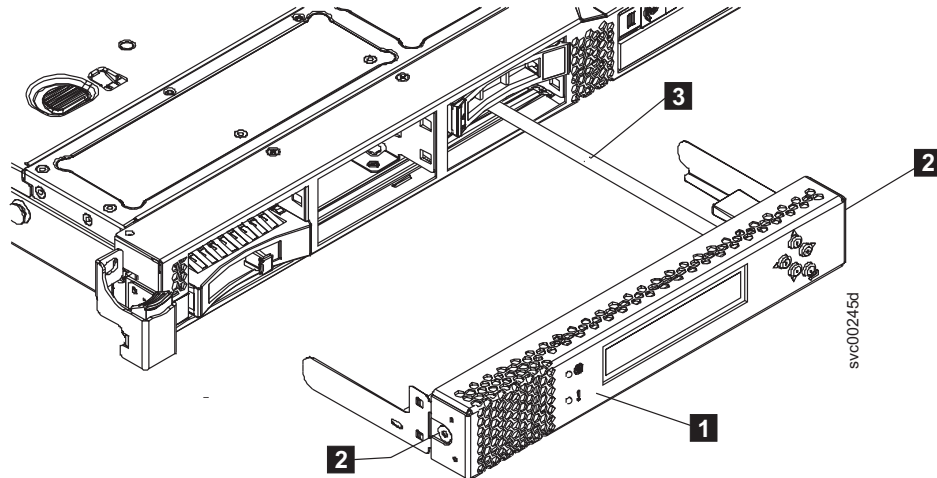

Figure 113. Service controller for the SAN Volume Controller 2145-CF8 with attached USB cable
5. If the service controller (**1** in Figure 113 on page 133) is in place, press the release buttons (**2**) on each side of the service controller assembly to release the service controller from the node, but do not disconnect the USB service controller cable. Slide the service controller from the node and support it somewhere, if possible, or gently suspend the service controller from the service controller cable.